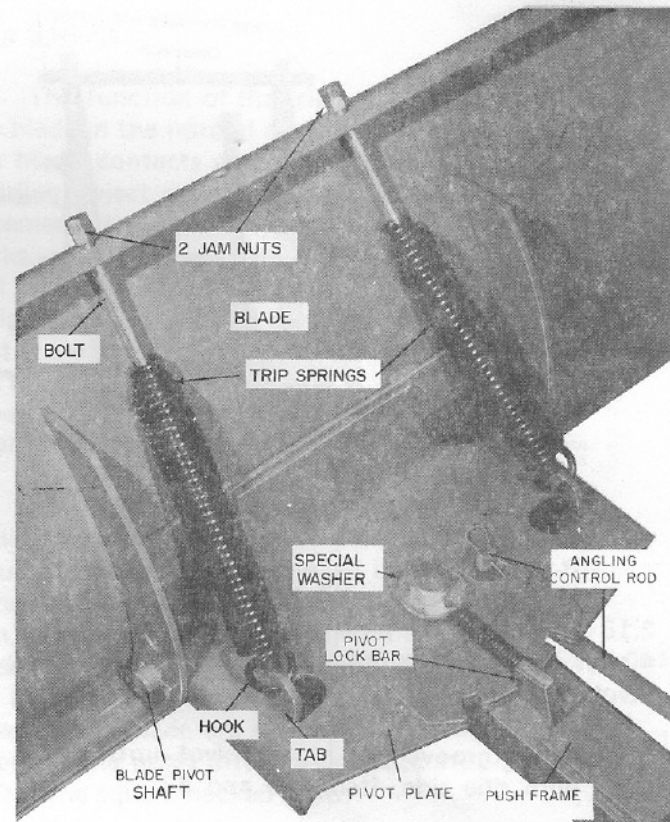

fig 4
2.3 Position pivot plate at bottom holes of blade. Slide blade pivot shaft through blade holes and pivot plate holes. Secure each end of shaft with cotter pins, fig 4.
2.5 Hook springs to tabs of pivot plate. Put bolts through holes in top of blade. Run one jam nut on each bolt all the way; secure by tightening second nuts against first nuts, fig 4.
2.7 Place special washer and then spacer on bolt, Items 7, 8 and 9. Insert bolt down through pivot plate and push frame, fig 4. Secure with two jam nuts. Do not over tighten; pivot plate must turn free on push frame pivot.
2.8 Connect spring from pivot lock bar to special washer, Items 6 and 8 and fig 4.
2.9 Put end of angling control rod up through pivot plate and secure with flat washer and hairpin cotter, fig 4; bend of rod must be down.